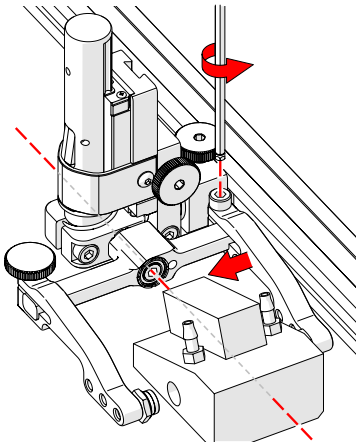

Fig. 108 - Adjust inner arm
4. Position the wedge on the inner probe holder arm (Fig. 108).
TIP: The probe holder yoke can accommodate many different probe and wedge sizes of varying widths. It is best to centre the wedge with the yoke's pivot axis. This can reduce wedge 'rocking' when scanning. Position the inner probe holder arm accordingly (Fig. 108) using the supplied 3 mm hex driver (Fig. 51).